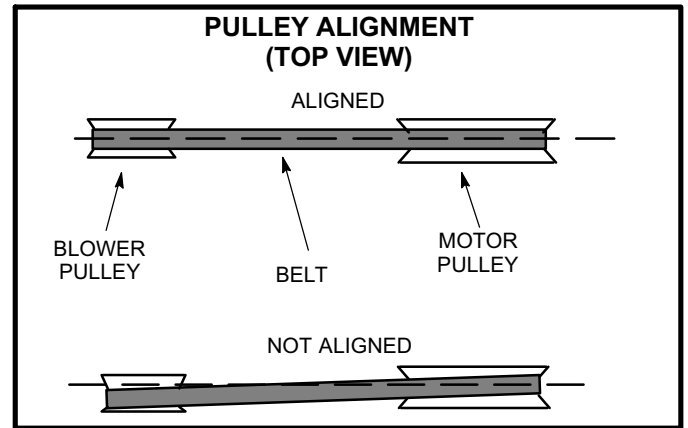
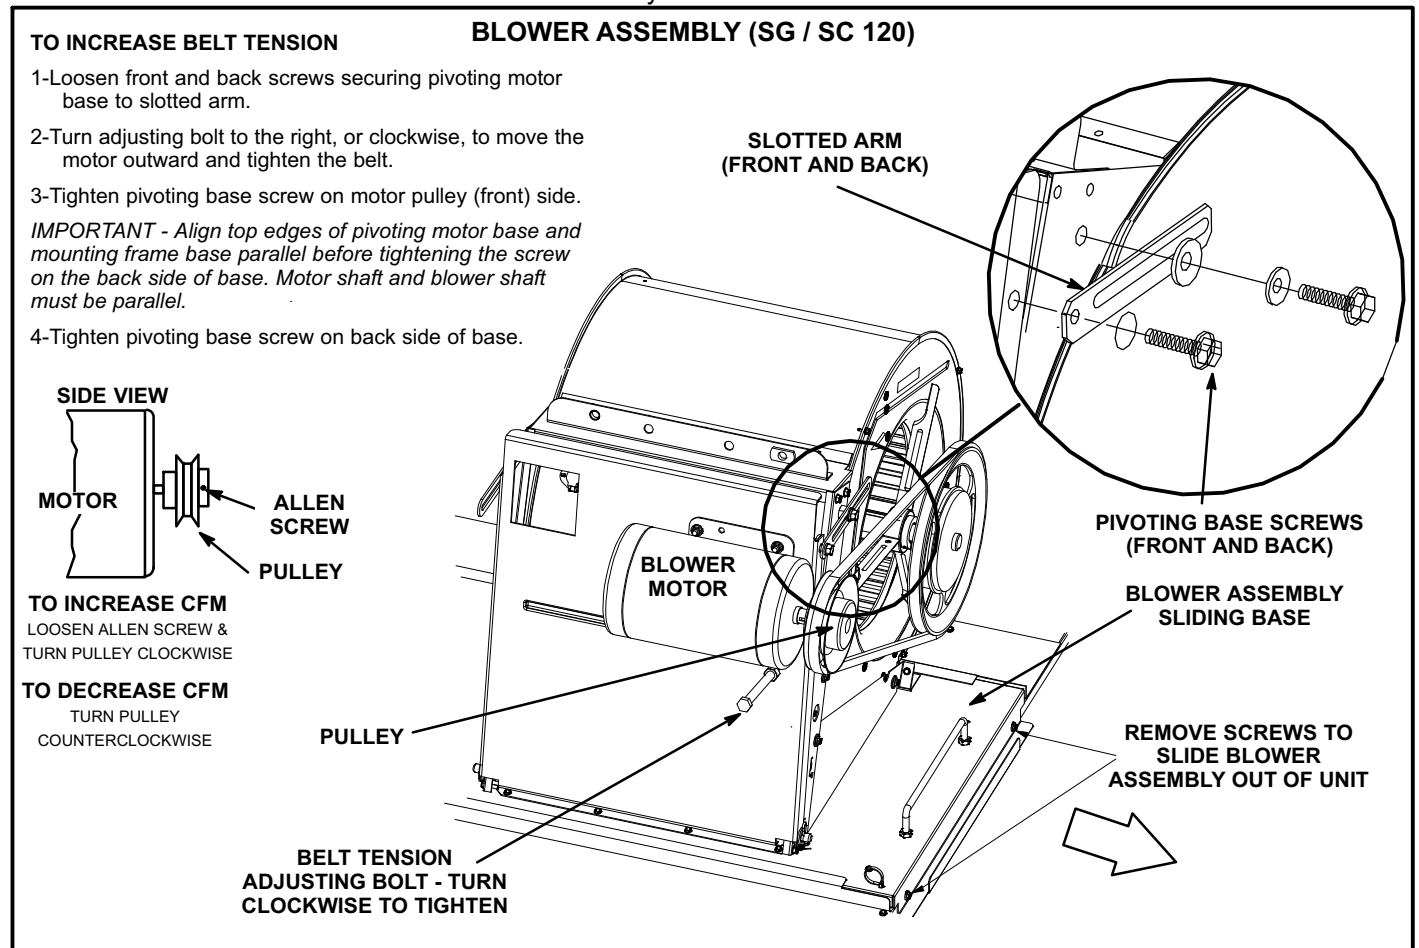

FIGURE 10
FIGURE 11
The blower compartment in all SG 120 units is located between the evaporator coil and the compressor/control compartment. The blower assembly is accessed by removing the screws in front of the blower housing. The blower pulls out as shown in figure 11 or 12.
The blower compartment in SG 240 & 288 units is located between the evaporator coil and the compressor / control section on the opposite side of the condenser coil. The blower assembly is accessed by removing the screws on either side of the sliding base. The blower pulls out as shown in figure 11 or 12.
2. Remove screws on either side of blower assembly sliding base. See figure 11 or 12.
4. The blower RPM can be adjusted at the motor pulley. Loosen Allen screw and turn adjustable pulley clockwise to increase CFM. Turn counterclockwise to decrease CFM. See figure 11 or 12. Do not exceed minimum and maximum number of pulley turns as shown in table 1.
proper pulley alignment and belt tension are maintained. Tension new belt after a 24-48 hour period of operation. This will allow belt to stretch and seat to grooves. Make sure blower and motor pulley are aligned as shown in figure 10. See figure 11 or 12 to adjust belt tension.